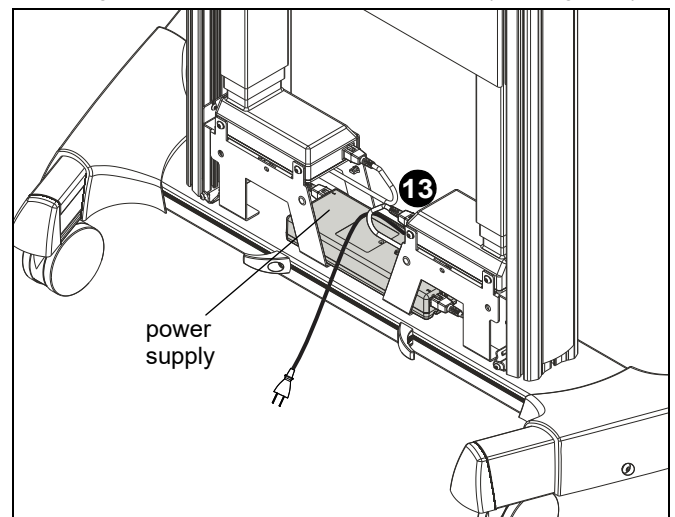

Figure 6
13. Plug in power cable (C) to power supply. Provide strain relief using the cable tie on nearest cable clip. (See Figure 6)